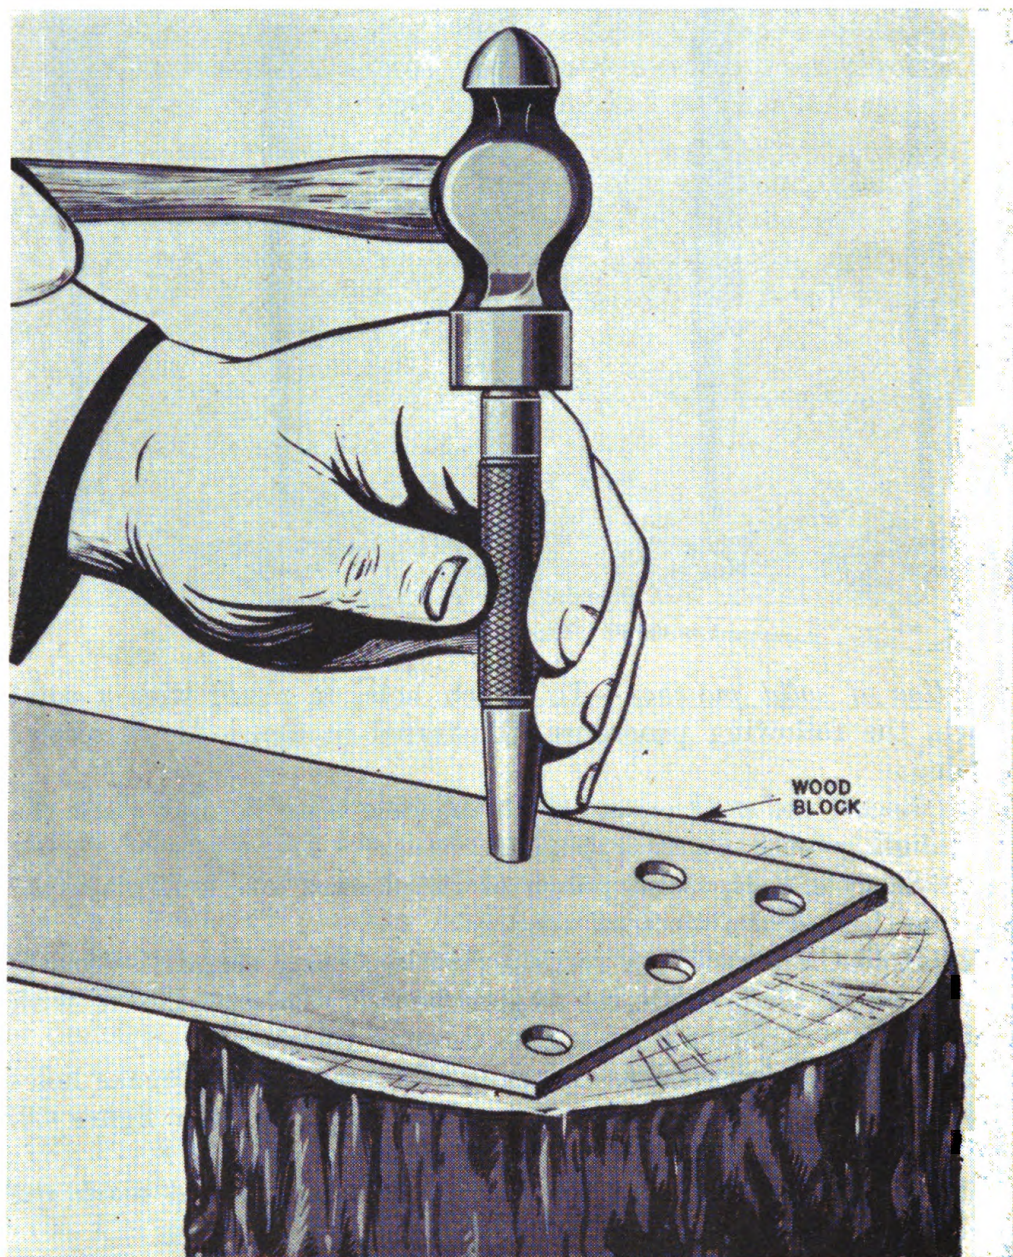
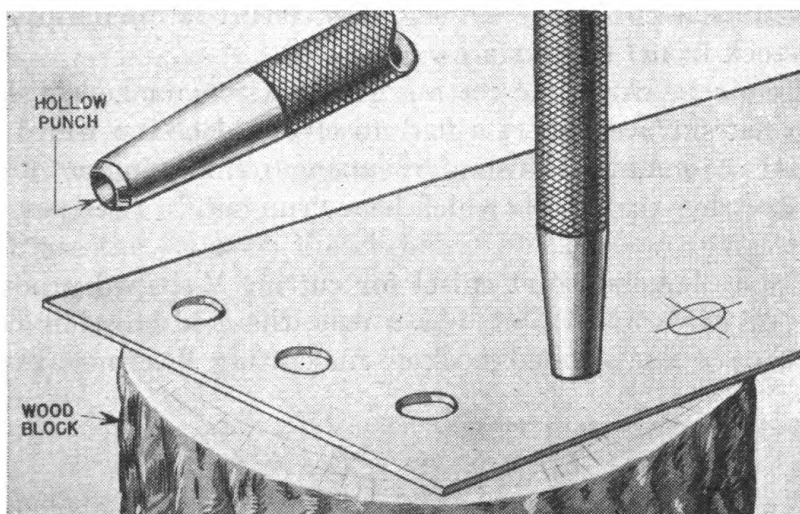

FIGURE 31.—Using a solid punch.
FIGURE 32.—Using a hollow punch.
b. Use of solid punches.—To punch holes in metal with a solid punch, the following procedure, illustrated in figure 31, is recommended:
- (1) Locate the position at which the hole is to be and mark the work lightly with a center punch.
- (2) Select a sharp solid punch of the desired size and place the work on the end of a block of wood.
- (3) Hold the punch in a vertical position, being sure it is exactly on the mark made with the center punch. Then strike it with a fairly heavy hammer until it cuts through the metal.
c. Use of hollow punches.—In using a hollow punch to make holes in sheet metal, the following procedure, illustrated in figure 32, will give good results:
- (1) Locate the center of the hole to be punched and mark the work lightly with a prick punch.
- (2) Set a pair of dividers to half the diameter of the hole desired and using the prick punch mark as the center make a distinct circle on the work. This circle will have the same diameter as the hole to be punched.
(3) Select a hollow punch of correct size and place the work on the end of a block of wood.
(4) Place the punch exactly on the circle made with the dividers and, holding it vertically, strike it with a fairly heavy hammer until it cuts through the metal.